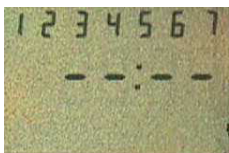

Fig. 4
- Repeatedly press the Prog. Button until the — :— symbol appears in the clock display (see fig. 4).
- Repeatedly press the Prog. Button until the — :— symbol appears in the clock display (fig. 4).